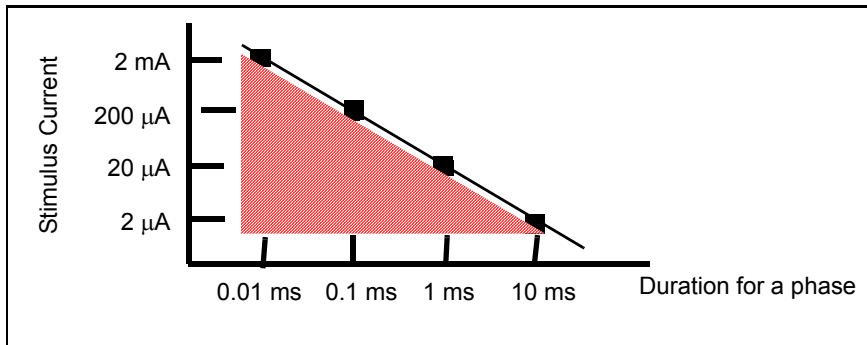

Figure 7. Suggested stimulation parameters.
As described in the previous section, the applied stimulus current charges the electrical double-layer capacitor and causes the voltage (V_c) to change (Figure 7). When the voltage (V_c) rises beyond 1V, the electrode will undergo electrolysis and release H₂ gas. This causes the stimulation efficiency to drop dramatically, introduces extremely large stimulus artifacts, harms cells, and damages the electrodes. Thus, the stimulus current (I_s) should not go beyond this level.
- DO NOT use combinations of stimulus current & duration outside the shaded area in the Figure 7. Higher values might damage the electrodes.